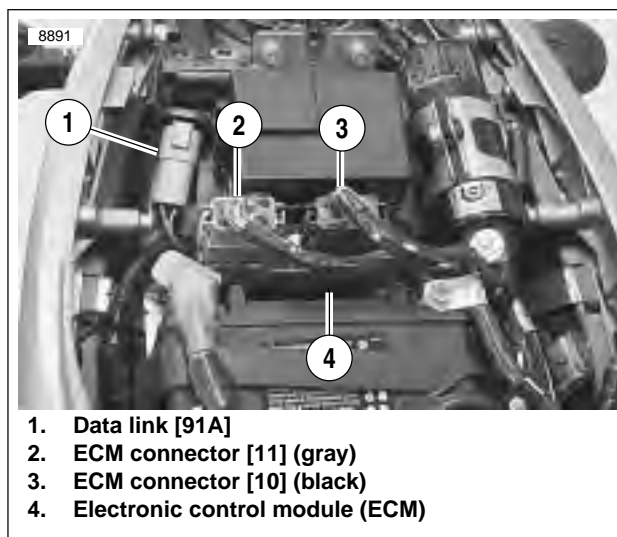

Figure 4-13. Electronic Control Module
2. See Figure 4-13. Inspect connector [10] (black) (3) for contamination or corrosion. If connection is good, replace ECM. See 4.30 ELECTRONIC CONTROL MODULE.
3. Check continuity between instrument connector [39] Pin 7 and ECM connector [10] (black) (3), pin 4.